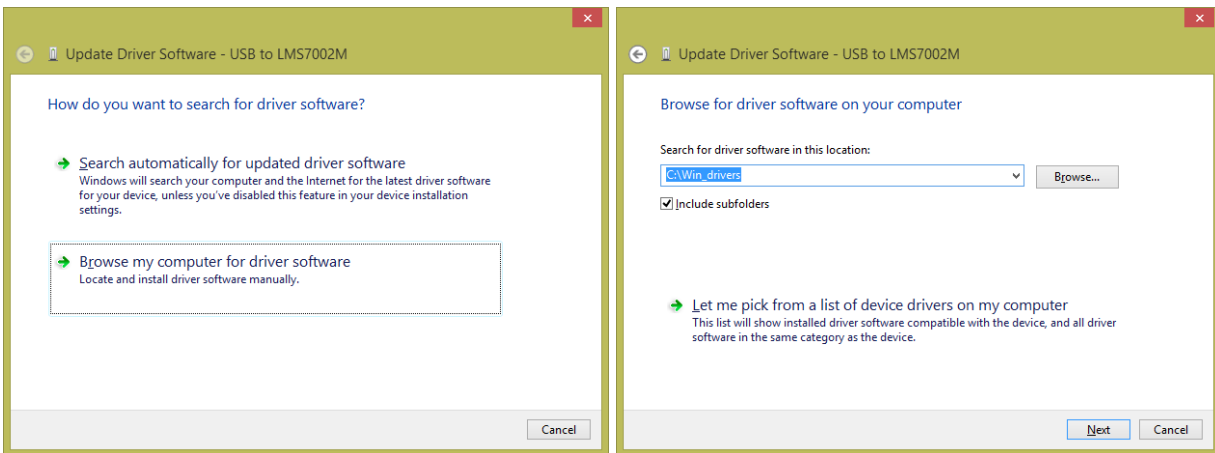

Figure 5 Update Driver Wizard.
5. Select **Browse my computer for driver software**, locate the driver provided with UNITE7002 board and press **Next** Figure 5